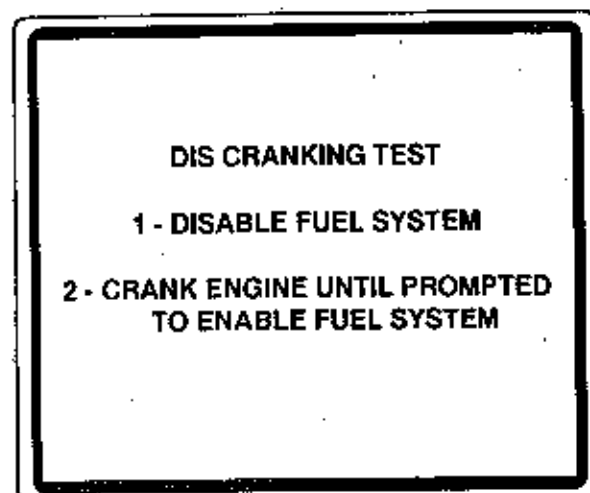

Figure 52
1. Disable the fuel system. - For instructions, press [0] to see a Help menu (see Figure 52). From the Help menu, select the type of system being tested. The Help screen shows instructions for disabling that system.